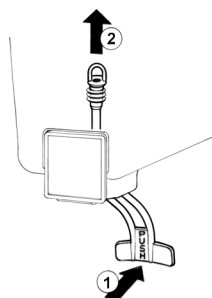

figure 4
- 5 **Pinch tube faucet:** push the dispensing handle (1) and take the pinch tube off from its seat (2) (see figure 4).